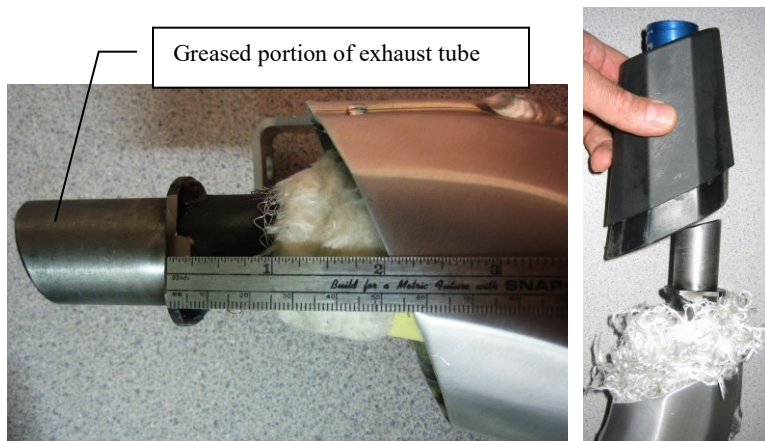

Figure 6 – Measurement to verify properly inserted/fitted exhaust tube (Left).
- 8) Before re-installing the end cap, verify that the exhaust tube is fully inserted/fitted into the silencer body and was not displaced during the disassembly process. When properly inserted/fitted there should be approx. 2" from the exhaust tube flange to the edge of the silencer body as shown in Figure 6 (Left). The end of the exhaust tube inside the silencer body fits over a flange, if there is significantly more than the 2" then the exhaust tube is not properly fitted over this flange. If this is the case, manipulate the exhaust tube until the exhaust tube fits over the flange and can be fully inserted/ fitted into the silencer body to obtain the 2".
- 9) Next clean and lightly grease the portion of the exhaust tube that will fit in the spark arrester as shown in the Left portion of Figure 6 and slide the end cap onto the silencer body by directing the exhaust tube into the I.D. of the spark arrester as shown in the Right portion of Figure 6. As the end cap gets close to the silencer body, introduce the lower corner of the end cap into the silencer body first as shown in Figure 7 (white arrow). Be patient, it may take several attempts to get the orientation correct and the end cap started into the silencer body. Once started, a gentle tap with a rubber mallet at the location shown in Figure 7 can help align and seat the end cap in the silencer body.